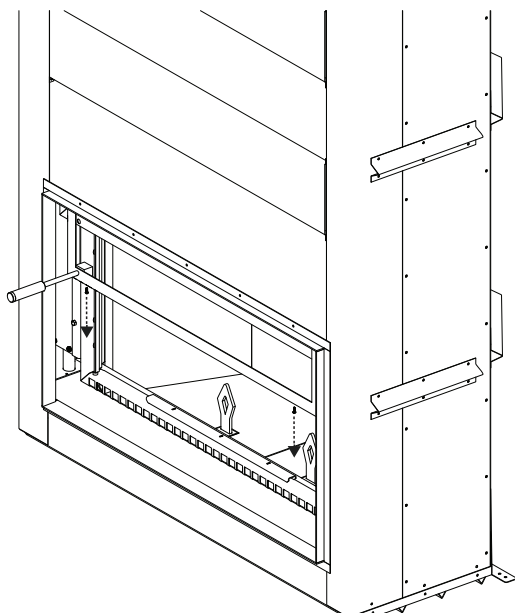

FIG 1:
- C. Unscrew the top and bottom retainers inside door frame. **(FIG. 1)**
- A. Insert the handle and lift the screen slightly up to remove the 2 screws on the bottom inside of the screen frame. **(FIG. 1)**
- A.** Remove screws from brackets and slide rear panel (1) out of smoke chamber. Repeat for both side panels (2, 3) (**FIG.1**).
F. Slide side panels then rear panel into smoke chamber and install brackets. (**FIG.1**)